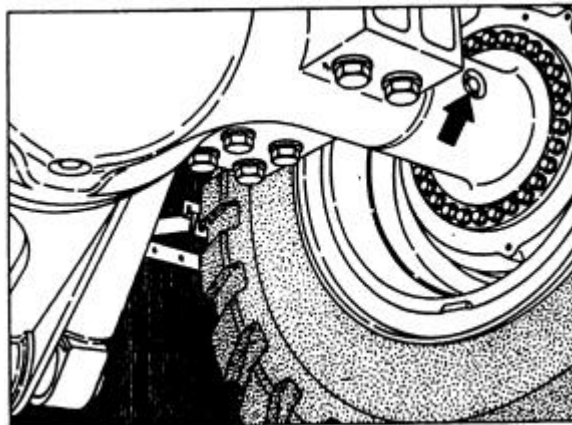
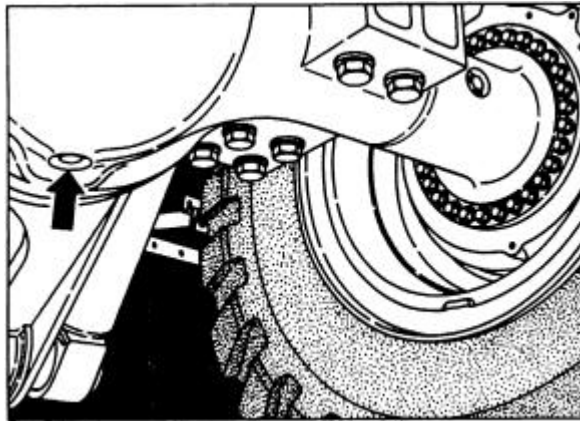

Fig. 5.27. Axle Filler Plug
Fig. 5.28. Axle Oil Drain Plug
1. Position the machine on level ground. Move the machine until the planetary plug (as shown in Fig. 5.28) is on the horizontal center line of the axle.
3. Lubricant should flow from the planetary when the plug is removed. If necessary, remove the axle filler plug, Fig. 5.27 and add lubricant up to the level of the planetary level plug.
1. Work the machine until the axle lubricant reaches the operating temperature. Park the machine on level ground. Apply the parking brake. Remove the axle filler plugs shown in Fig. 5.27 and drain plugs shown in Fig. 5.28. Allow lubricant to drain thoroughly.